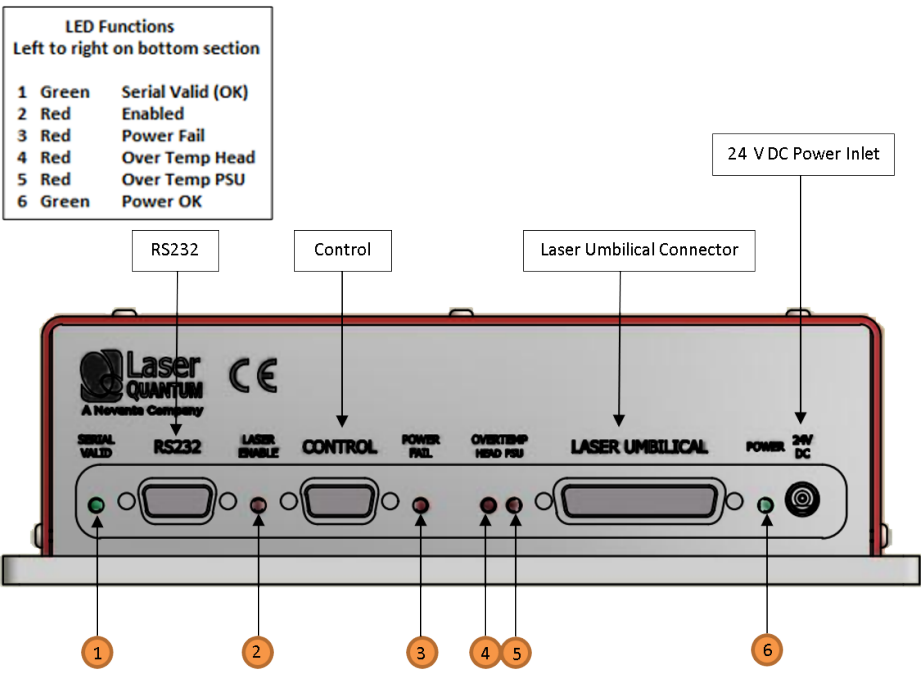

Figure 4-2
- 4 The analogue Control port (see Figure 4.2) is multi-functional as it has connections for Interlock, Enable Switch and Laser Power Control/Modulation. The Interlock must be closed to allow the laser to operate, and this can be achieved using the supplied red-spot Interlock Dongle.
The **MPC32** can be operated directly via the control port (see Figure 4.2) by applying 0 to 5 V in accordance with the diagrams in this section.